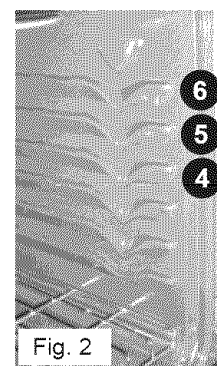

Fig. 2
3. When using 2 oven racks at the same time, place in positions 2 & 5 for best results (See Fig. 2).
### Broil Oven Rack Position Table (Refer to Fig. 2)